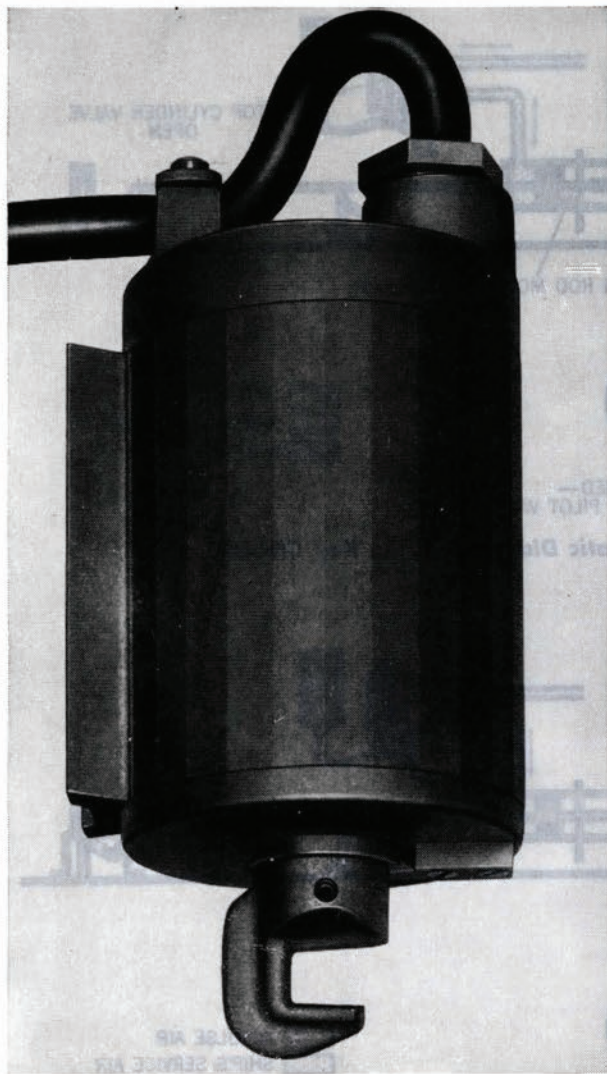
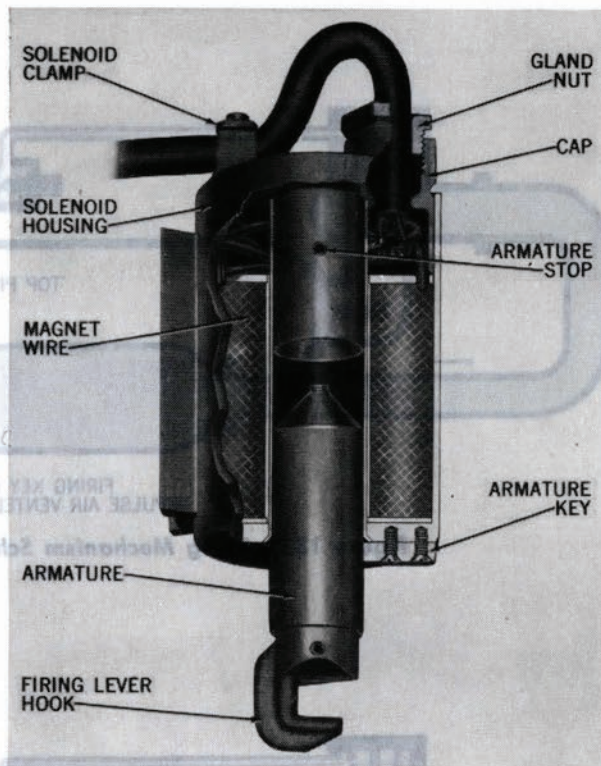

Figure 135—Solenoid—Lever Hook Up.
Figure 136—Solenoid—Lever Hook Down—Sectional View.
**Solenoid.** The solenoid, figure 135, is mounted on a bracket secured to the stop cylinder casting; it is wired in series with the firing circuit. In the lower part of the solenoid, a firing lever hook is attached to a movable iron core or armature, figure 136. The magnetic field caused by the current passing through the solenoid winding draws the armature upward and raises the firing lever